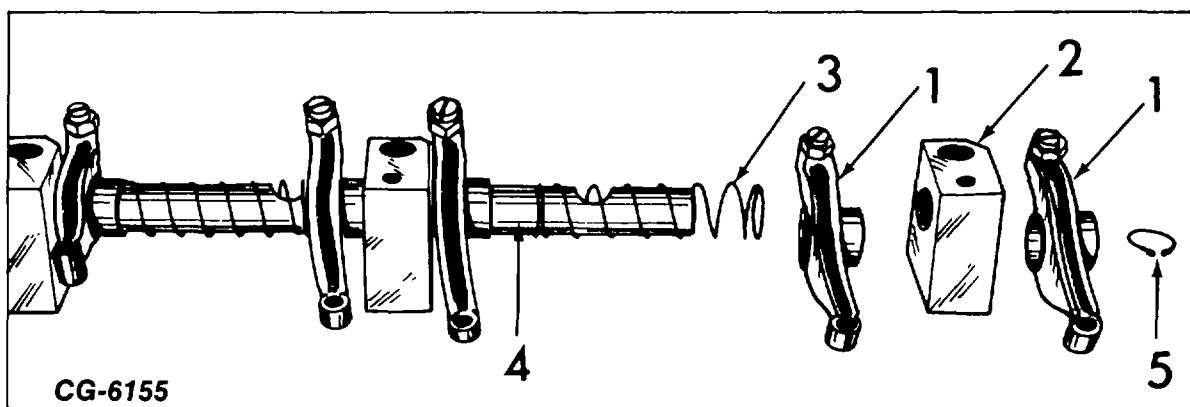

Figure 36. - Valve Lever and Shaft Assembly
5. If necessary, press replacement cap plugs into each end of the shaft, (4, Fig.36).
6. With side of shaft (4) marked "TOP" up and bolt grooves toward assembler, slide one spring (3) to the center of the shaft.
7. Slide a rocker arm (1) into the shaft on each side of the spring, with the adjusting screw towards the assembler.
8. Slide a support bracket (2) onto the shaft from each end of the shaft to the rocker arm. The tapped hole in each bracket must be to the top and the through bolt holes must line up with the notched side of the shaft.
9. Slide all remaining parts on the shaft, observing the order shown in Fig. 36. Install the snap rings (5) into the grooves at each end of the shaft.